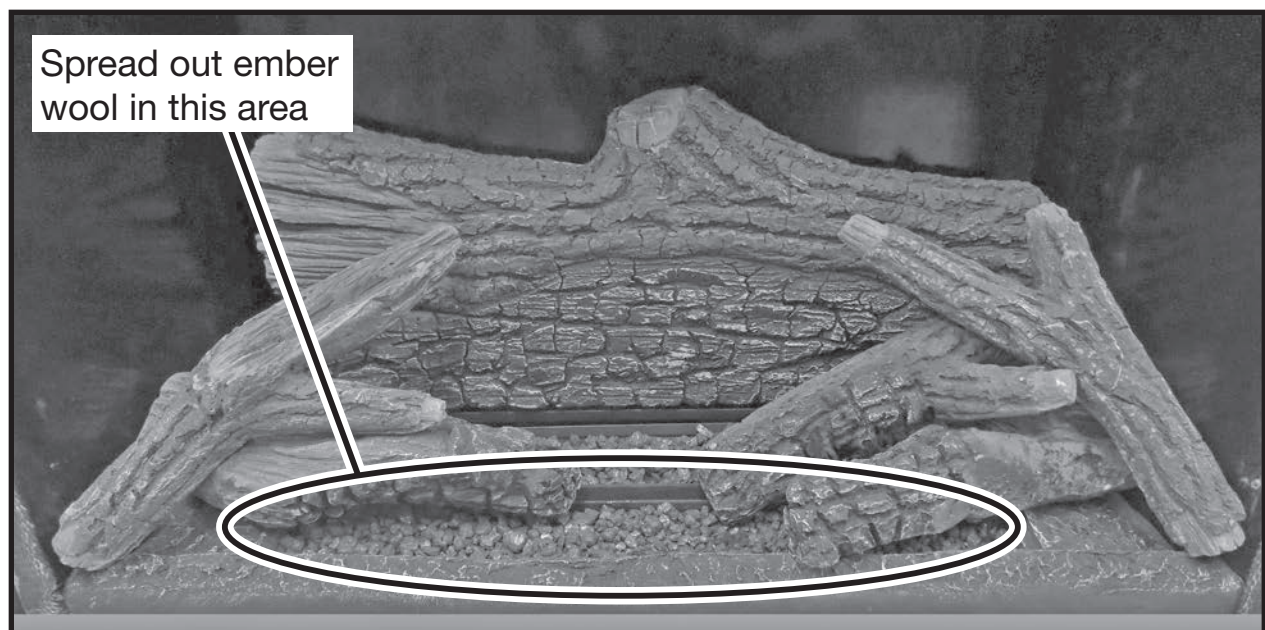

Figure 81: 6th log placement and ember wool distribution.
14. Place the 6th log (Figure 60) so that the bottom end of the log rests against the right wall panel and right base piece. Position the top end so that the longer branch is cradled in the crook of the 5th log (Figure 81).
16. Spread contents of bag of Ember Wool (Figure 62) in front of the logs to finish (Figure 81).